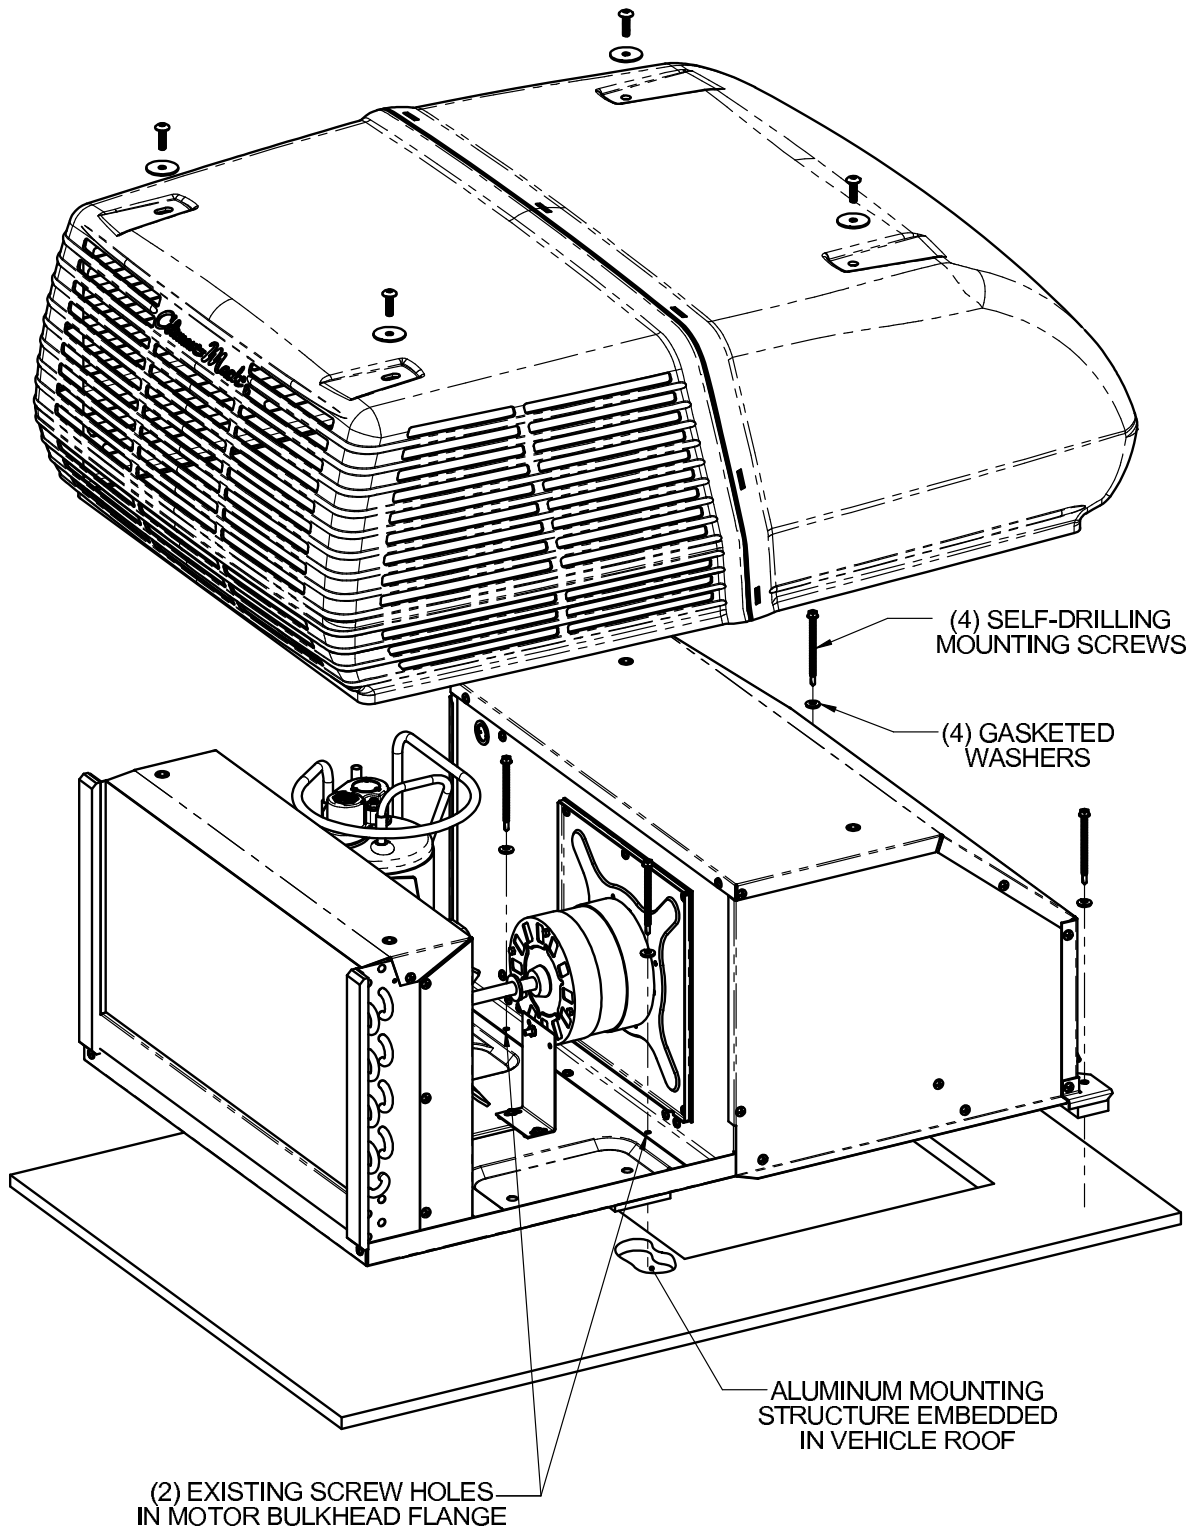

Figure 2
6. Remove the 2 sheet metal screws through the unit bulkhead flange as indicated in Figure 2.
8. Using 2 self-drilling screws and gasketed washers, run the screws down through the mounting braces, through the spacers and into the vehicle roof. Tighten screws just until the spacers pull down to the roof. Thread the remaining screws with gasketed washers through the bulkhead flange holes and tighten until the unit gasket has been evenly compressed. Use care to NOT STRIP the screws. See Figure 2.